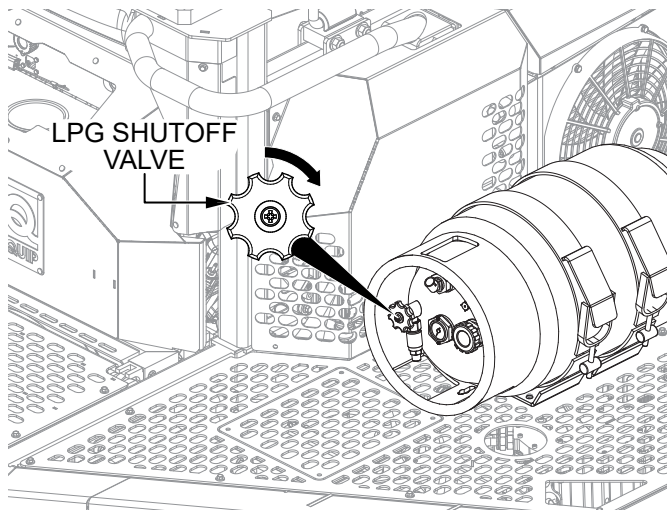

Figure 32. LPG Shutoff Valve
2. Turn the LPG shutoff valve (Figure 32) clockwise until closed.